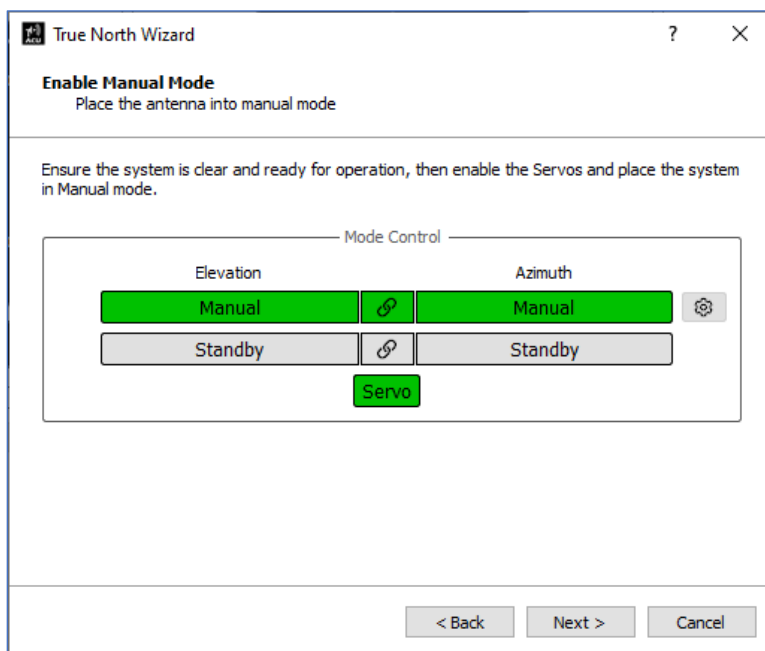

Figure 60: True North Wizard, Enable Manual Mode
5. In the True North Wizard, Enable Manual Mode screen, enable Manual Mode axes control, as shown in Figure 60. The AZ and EL axes are ready to move. Select the Next button to continue.